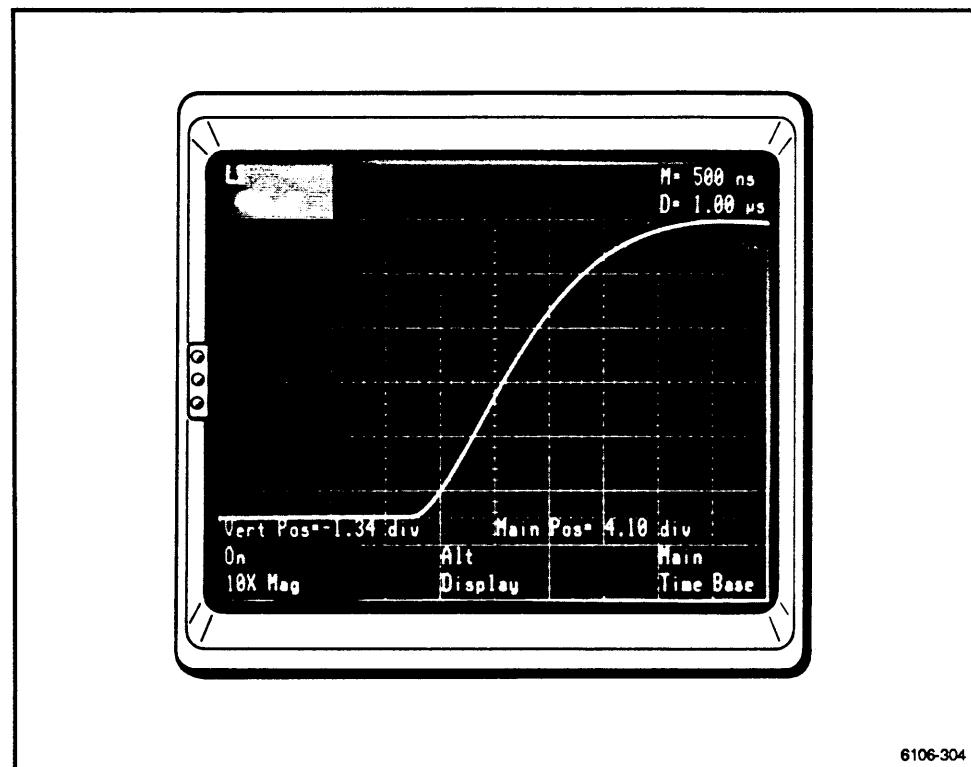

Figure 2-105. 10X Magnified signal.
5. Touch 10X Mag to read On. (See Fig. 2-105.)